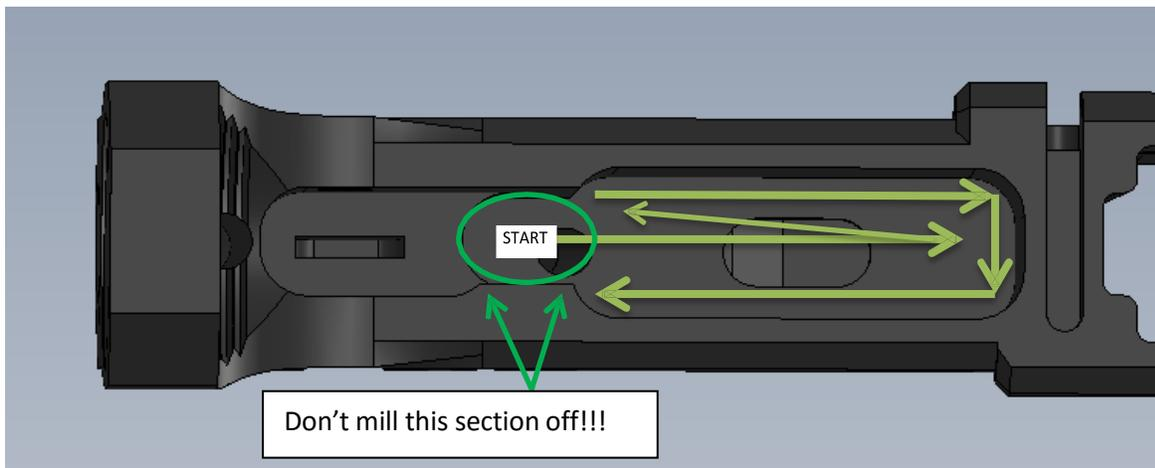

Figure 3
- 7. Once the fire control pocket and hole #1 are done you can start going straight across into the wider fire control pocket area to clear smooth out the floor and side walls to refine or smooth them out. It's important to start clearing out the hole from debris so you can see what you are doing. A strong light and a shop vac are useful. Figure 3 shows you the technique and pattern you should follow while plunging and milling.
8. Note: Now that we're going to start drilling and cleaning out the main fire control pocket using a milling procedure, it's important to note that the drill bit in a drill press is spinning in a clock-wise direction towards you, from right to left. **ASSUMING YOU ARE USING A CROSS SLIDE VISE** therefore, when moving the jig underneath in the slide vise, follow the path pictured in Figure 3 to prevent the bit from jumping and chattering. You will work against the grain in one sense, rather than allowing the bit to grab and run.
10. **Each time you go through this process, FOLLOW THE PATH IN FIGURE 3.**